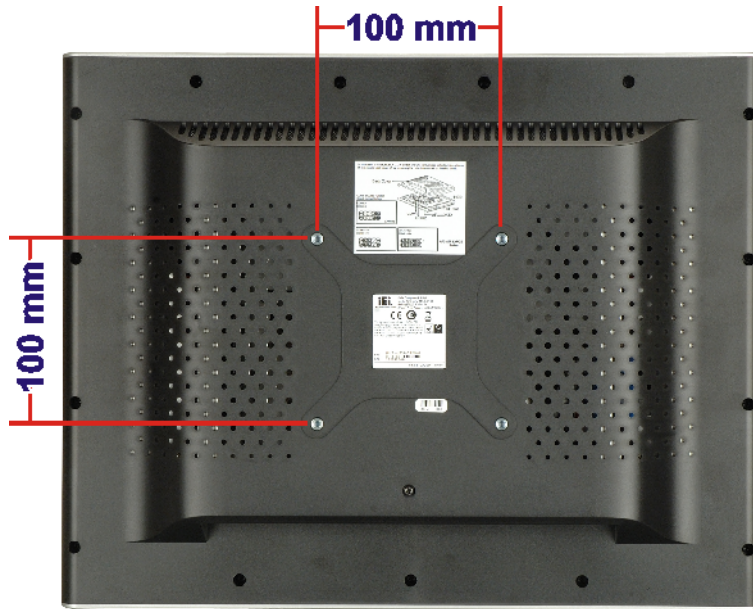

Figure 2-19: Arm Mounting Retention Screw Holes
- Step 3:** Align the retention screw holes on the mounting arm interface with those in the flat panel PC. The arm mount retention screw holes are shown in Figure 2-19.